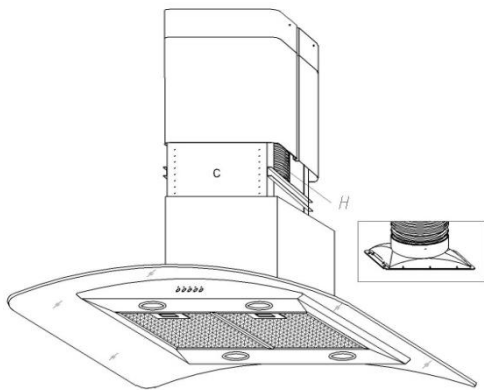

Fig. 10
- Fix the air evacuation pipe **H** (not supplied) onto the connection flange (Fig.10)